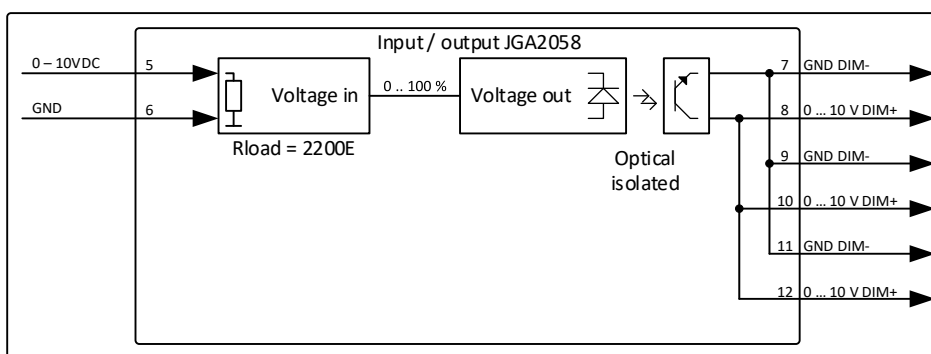

Figure 4: Simplified operation overview
- The output will send a voltage of 0 ... 10VDC to the LED-drivers. The combined current of the outputs is 100mA. (All outputs of the JGA2058 are parallel to each other, see figure 4).